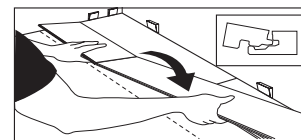

Figure 8
- Continue installing full boards in the second row by angling the short end of the next board in the row to lock into the previous board (Fig. 8). Position the board so that the long side of the board is close to boards in the previous row and overlapping the groove of the boards in the previous row.